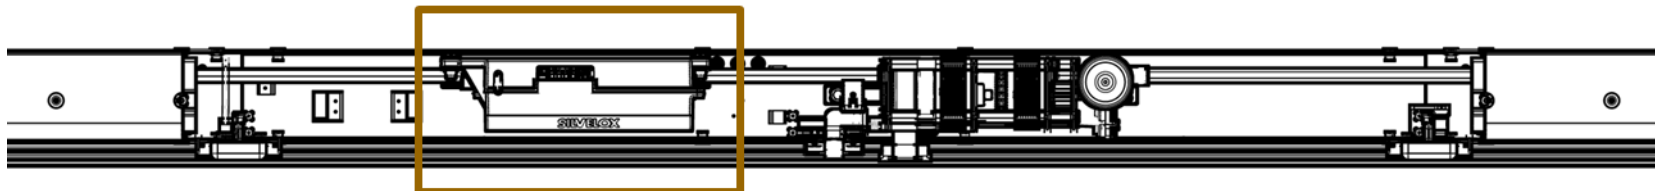
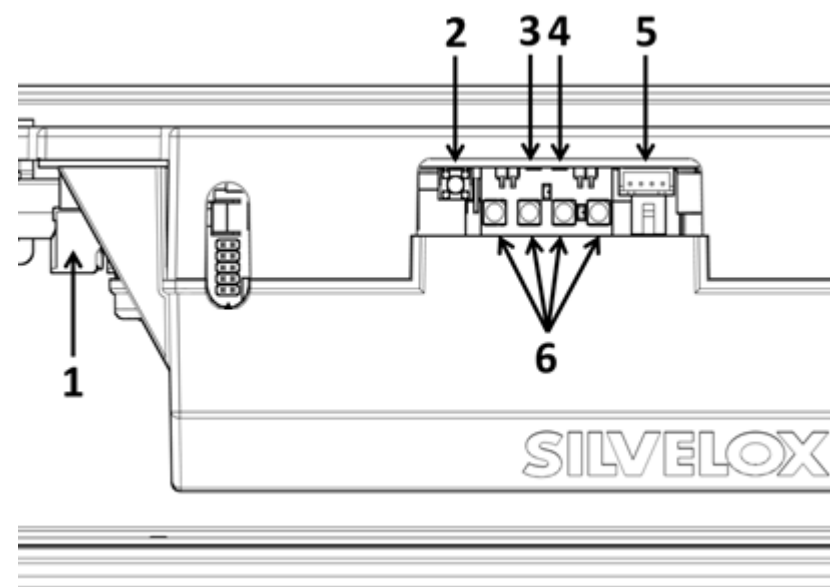

Figure 5-1
Figure 5-3
The Diagnostic LED (Figure 5-3 on page 51, referenced as number 4) works without signaling any anomalies, i.e. it does not blink.
The electric connections and the electronic components are located in the operator control box, immediately visible on the headbar, if the headbar central cover is not in place (Figure 5-1). The electric connections/components are listed in Table 5-1, referring to Figure 5-3.
Safety appliances and/or optional devices have to be connected to the terminal blocks (Figure 5-3 reference number 1). A close view of the terminal blocks is presented in Figure 5-4 and the contact descriptions are listed in Table 5-2. To facilitate the cable connections it is possible to remove the terminal blocks from their sockets and replace them back once the connections are made. In Section 5.3 the wiring diagram can help to visualize the connections.
- With door closed and connected to the power network, plug the Bluetooth key in the configuration port visible in Figure 5-3, referenced as number 6;
- Keep pressed for 3 seconds the TTC Control Button (Figure 5-3 on page 51, referenced as number 3); the Diagnostic LED (Figure 5-3 on page 51, referenced as number 4) will blink 2 times;
- The Diagnostic LED (Figure 5-3 on page 51, referenced as number 4): it starts to blink (red color) in case of electronic anomalies;
- The Voltage LED (Figure 5-3, referenced as number 5): it turns ON (green color) once the door is plugged to the power network;
- The Courtesy Light LEDs (Figure 5-3, referenced as number 7): it is a group of four white LEDs; once the door is activated, they turn ON and stay ON for 1 minute after that the door operation is completed.